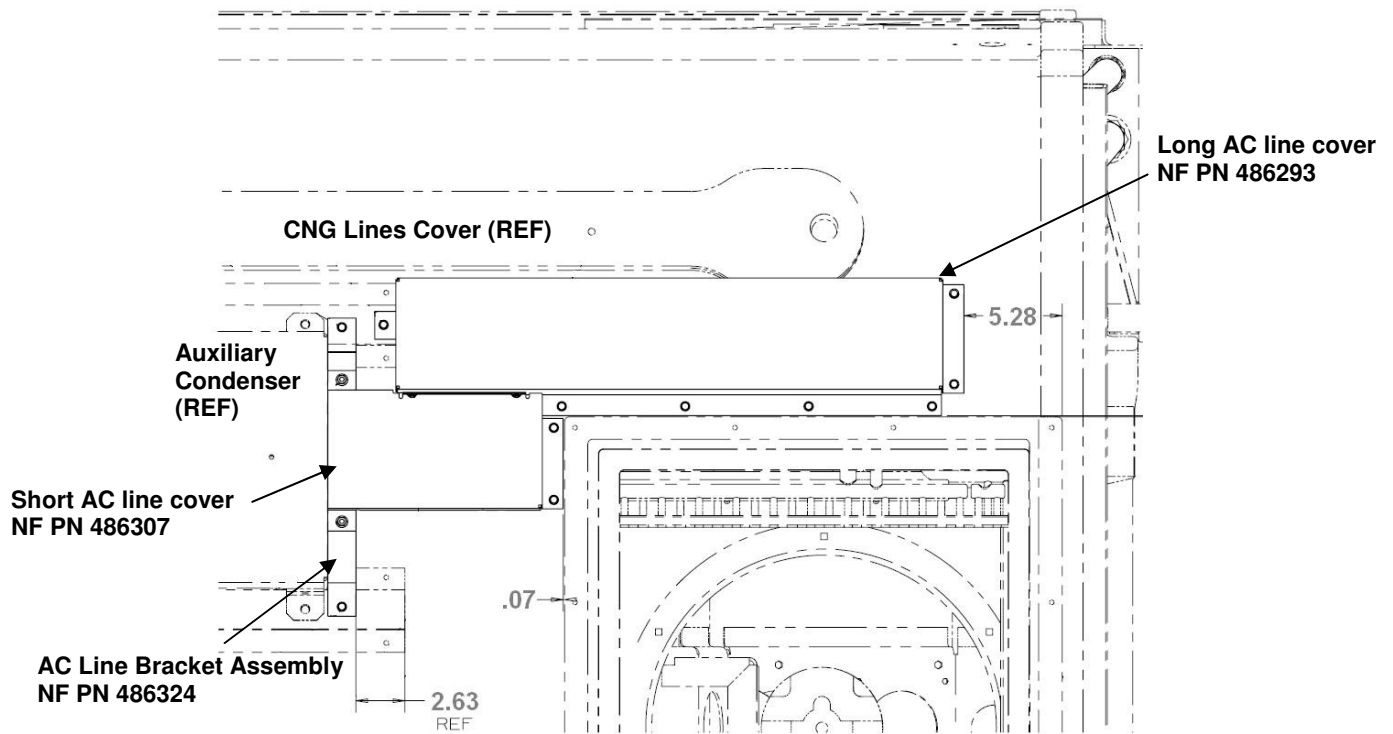

Figure 7: AC Line Covers Installation – View Looking Down at Bus Roof
- b. Place the long AC line cover (NF PN 486293) and the short AC line cover (NF PN 486307) in the positions as shown in Figure 7.